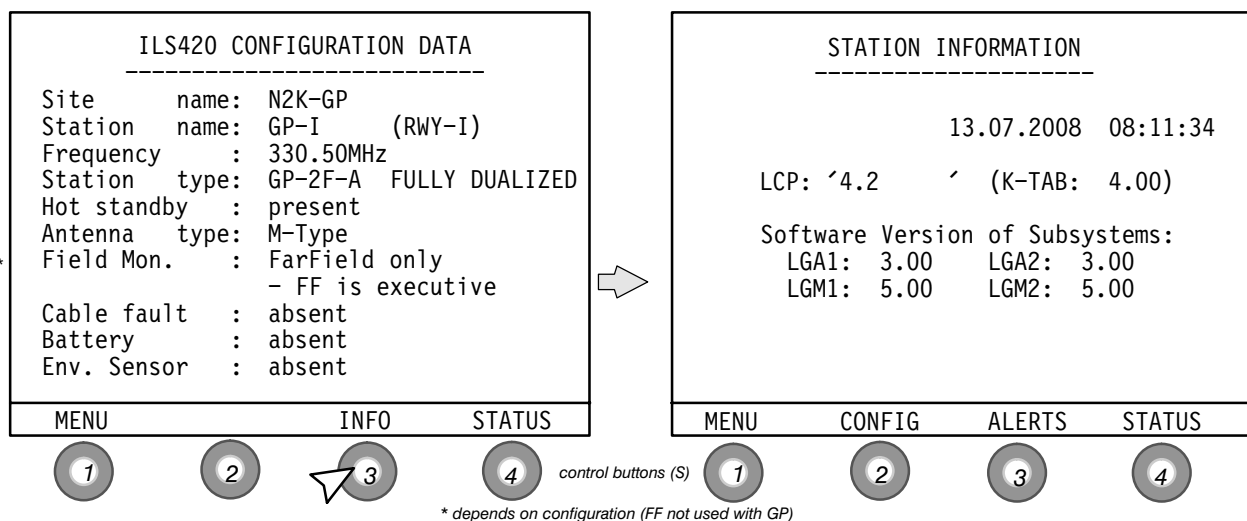

Fig. 3–28 INFO select and Station Information window (example)
- S4 STATUS to return to the Status window (see Fig. 3–6)